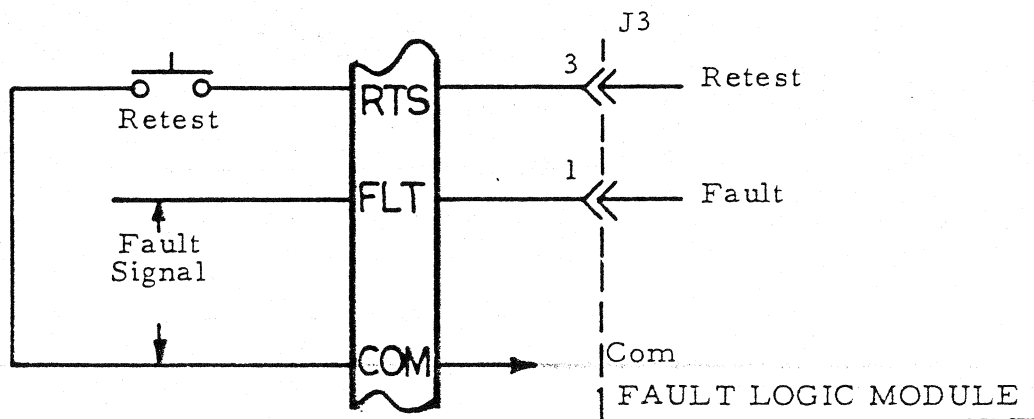

FIGURE 2-5. FAULT SIGNAL & RETEST CONNECTION
- 2) Momentarily connect the RETEST (RTS) line to common as shown in Figure 2-5.